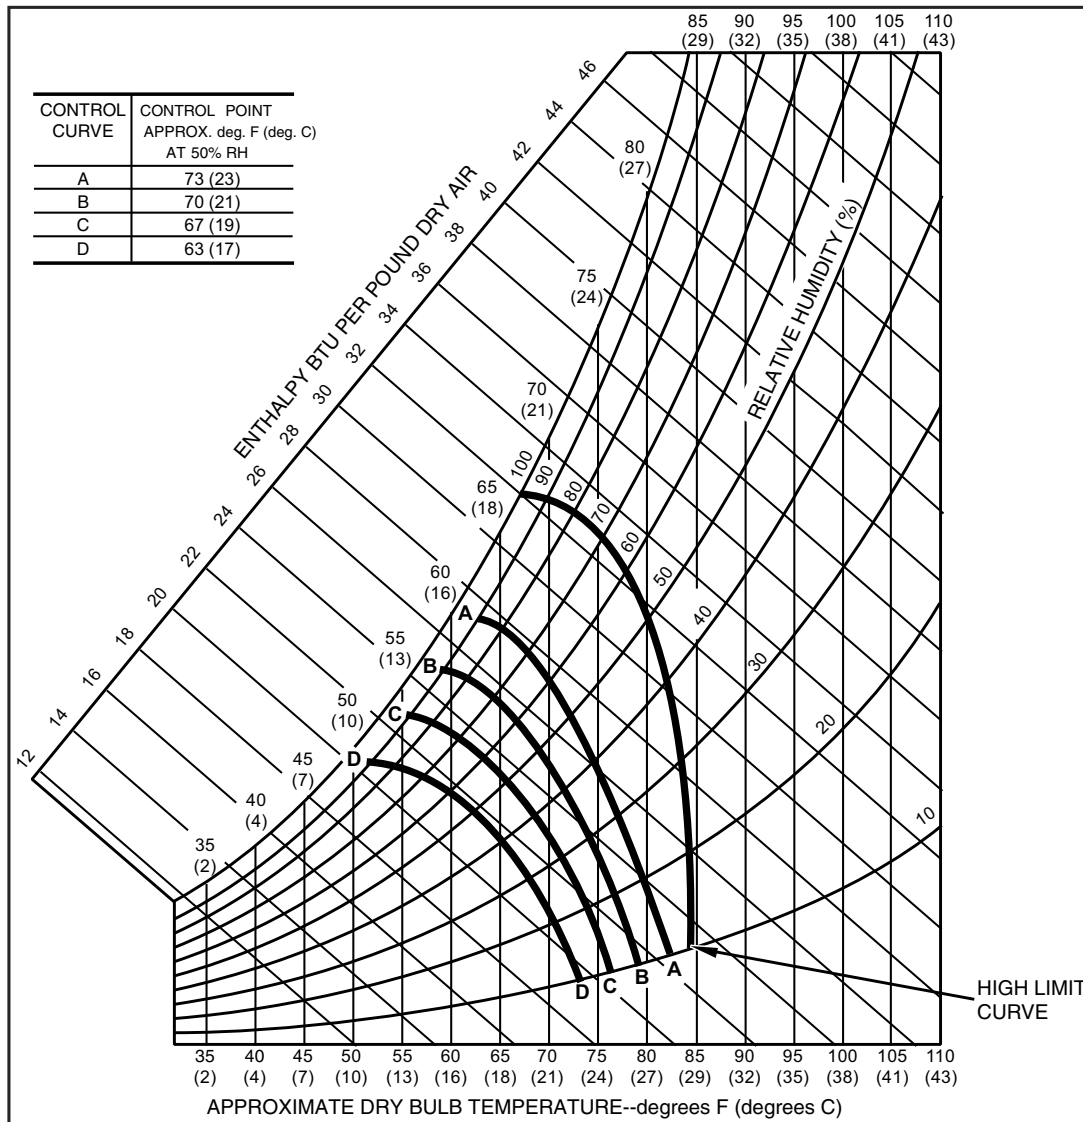

Fig. 17 — Enthalpy Changeover Setpoints
2. Disconnect the supply air sensor from terminals T and T1 (see Fig. 17) and jumper them together. The mixed air temperature controller will sense 55°F (13°C) and will not modulate the damper.